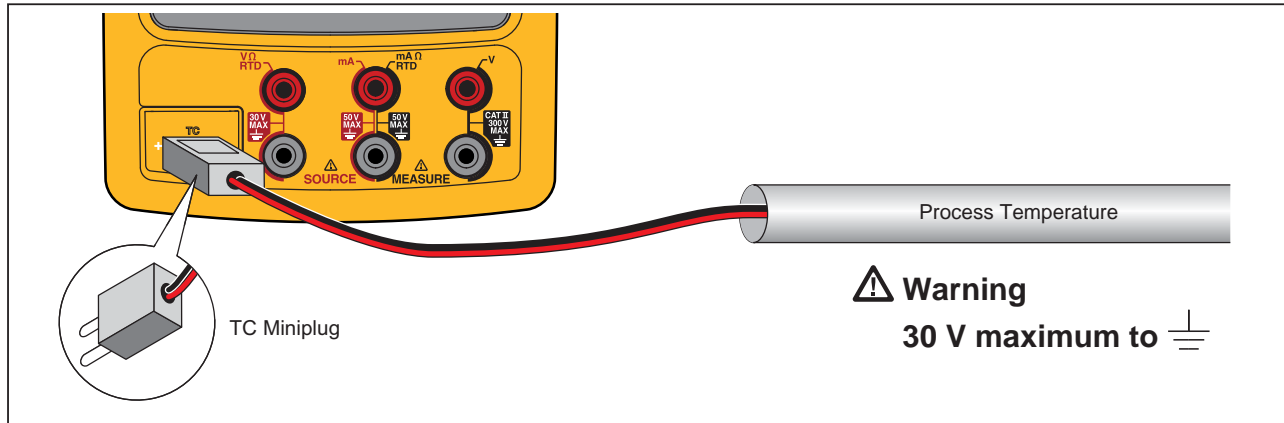

Figure 15. Temperature Measurement with a Thermocouple
1. Attach the thermocouple leads to the correct TC miniplug, then to the TC input/output. See Figure 15.